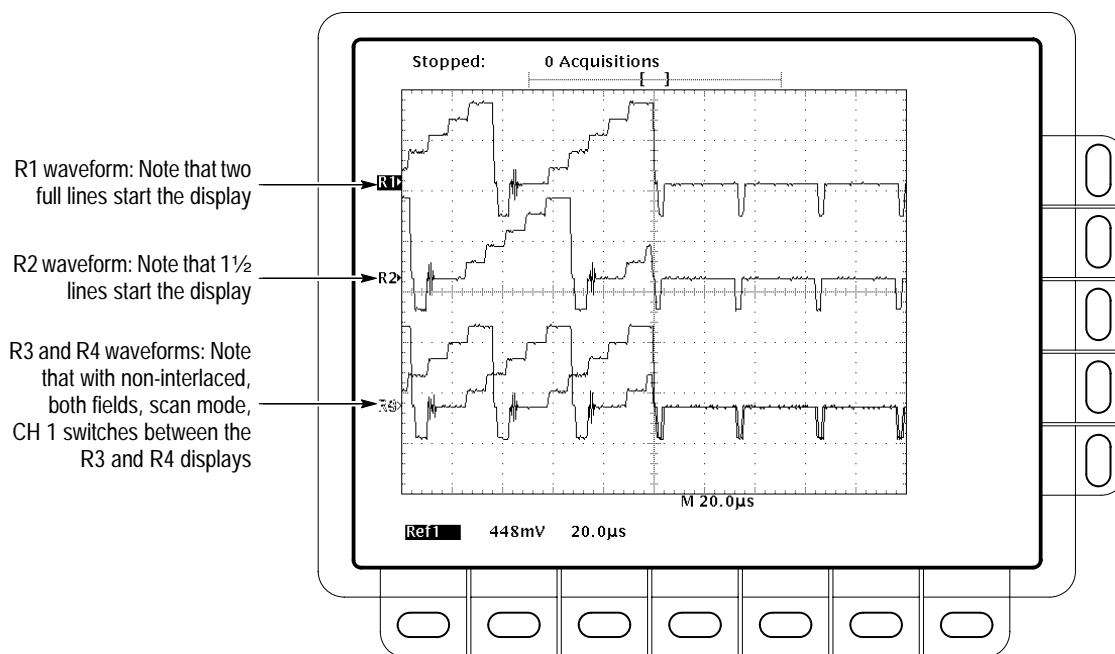

Figure 4–20: Measurement of Video Sensitivity
- CHECK that a stable trigger is obtained while alternating between field 1 and field 2. (If the last line is alternating between a full TV line and  $\frac{1}{2}$  a line in duration ( $63.5 \mu\text{s}$  and  $31.75 \mu\text{s}$  respectively), then triggering is occurring on both fields — see waveforms R3 and R4 in Figure 4–20.)